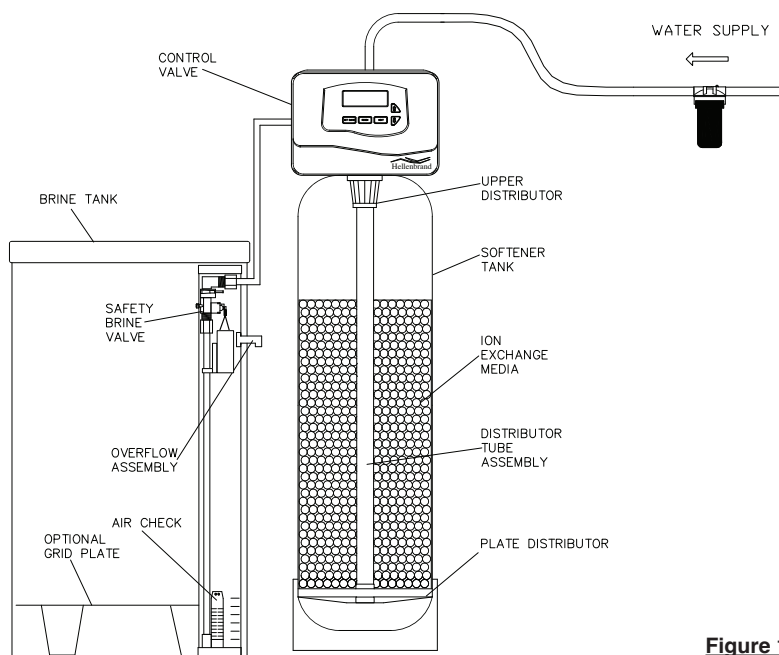
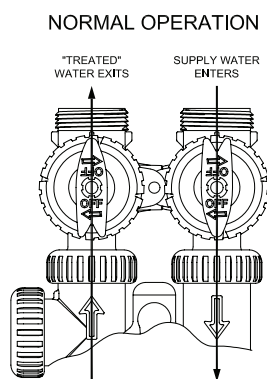
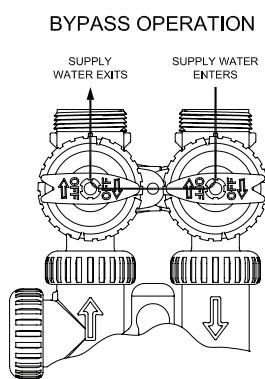

Figure 1
Figure 3
Figure 4
2. Place the bypass valve in the bypass position. (See figure 3 page 6) Turn on the main water supply. Open a cold soft water faucet to flush the piping of any air and/or foreign material. Run until the water is clear.
6. Push REGEN button and hold it down for 3 seconds. The system will advance to the "First" position. (Note: Depending on how the system is programmed it will read fill, softening, regen draw up, backwash, rinse). Pushing REGEN button until "Rinse" shows in the left upper hand corner of display. Slowly place the bypass into the "diagnostic mode" (see fig 4, page 6). Run water to the drain until it runs clear. Return the bypass valve to the by-pass position (fig 3, page 6). Push REGEN button until unit is back to softening mode.
Remove drain line elbow and remove button, replace elbow and retaining clip. Follow standard start-up steps until Step 6. Push and hold REGEN button until system advances to first position. After motor stops running, push REGEN button through regeneration steps until "BACKWASH" is displayed. Slowly place the bypass in the "diagnostic" position part way (see figure 4, page 6). Run water to drain until carbon fines are no longer apparent. Return bypass valve to bypass position (see figure 1, page 6) and wait until water stops running from drain line. Re-install drain line flow control button by removing clip from elbow and removing elbow from valve to insert button; proper orientation of DLFC button is with the flow of water towards the rounded edge of button hole and text on button. Re-insert elbow and retaining clip. Push REGEN button until "Rinse" is displayed, slowly open bypass to diagnostic position and run water to drain until any color throw from resin dissipates. Continue with Step #8, check brine draw and finish start up.